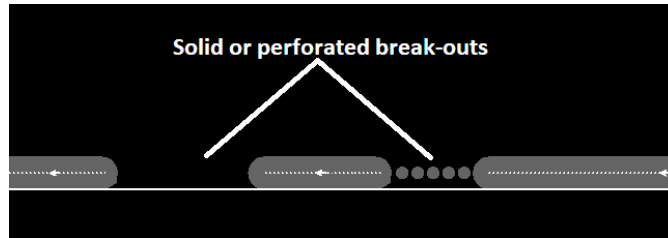

Figure 179
Break-out tabs stop the board falling out of a panel once routed. Either solid or perforated tabs can be inserted - Figure 179.
- Type: The breakout can be solid or perforated (as shown in Figure 179).